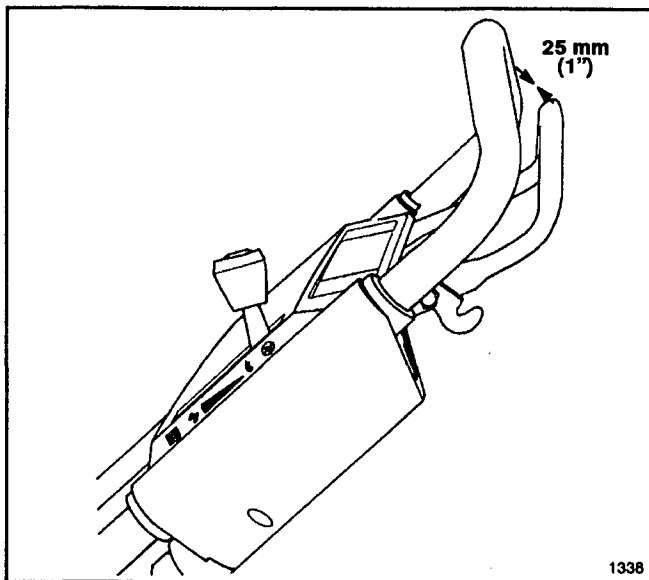

Figure 24
3. To check traction adjustment, slowly squeeze the control bar toward the handle. The traction is adjusted correctly when resistance is felt when the control bar is approximately 25 mm (1") from upper handle (Fig. 24).